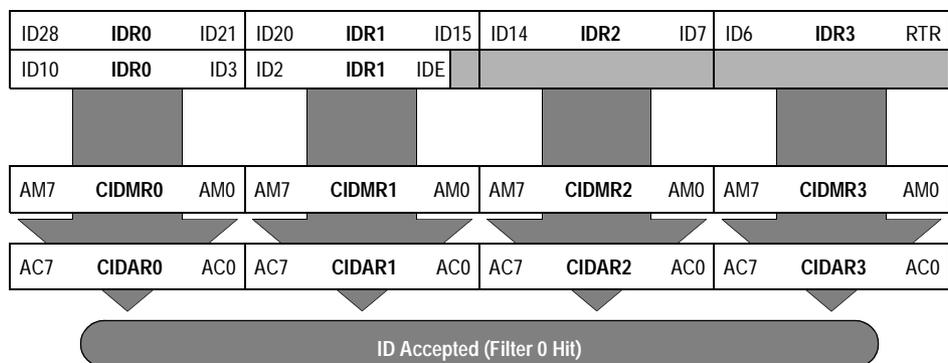

Figure 20-3. Single 32-Bit Maskable Identifier Acceptance Filter
- Single identifier acceptance filter, each to be applied to a) the full 29 bits of the extended identifier and to the following bits of the CAN frame: RTR, IDE, SRR or b) the 11 bits of the standard identifier plus the RTR and IDE bits of CAN 2.0A/B messages. This mode implements a single filter for a full length CAN 2.0B compliant extended identifier. **Figure 20-3** shows how the 32-bit filter bank (CIDAR0-3, CIDMR0-3) produces a filter 0 hit.